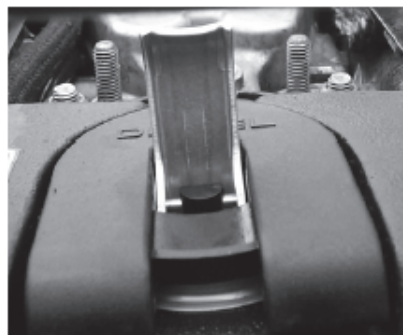

Figure 12 Engine fuel tank cap
39.2 Engine Fuel Tank. Release the Fuel Tank Cap locking lever (Figure 12), remove the cap and ensure there is fuel in the tank.